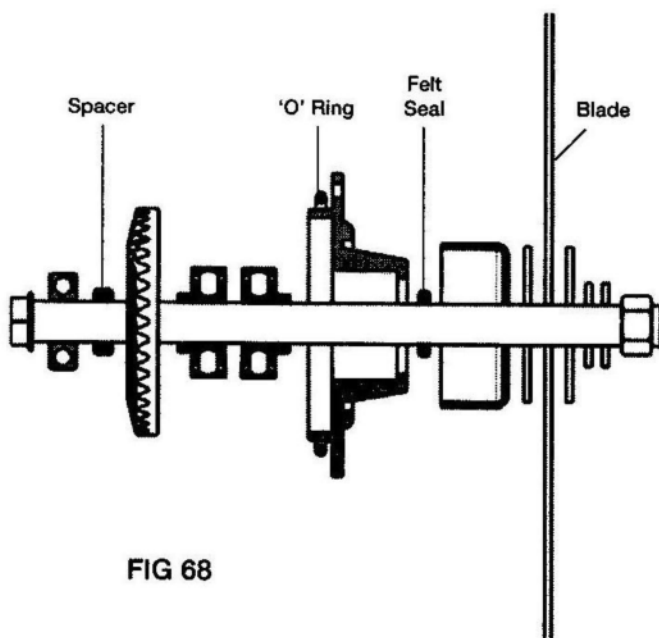

FIG 68
7. Replace crown gear if teeth are worn. See sequence of assembly (Fig. 68).